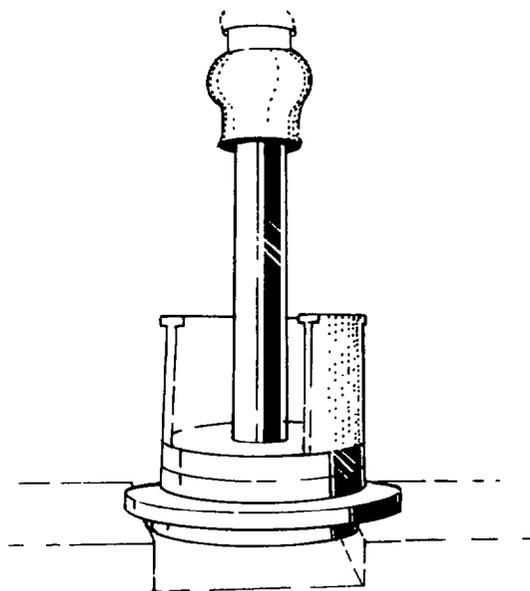

Fig. 287 — Removing Bearing Cup
- e. Press the bearing cup from the bearing retainer (see fig. 287).